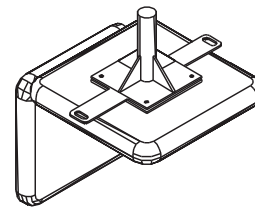

Figure 4-50
4. Position the anchor plate at the center of the seat post plate. **See Figure 4-50.**